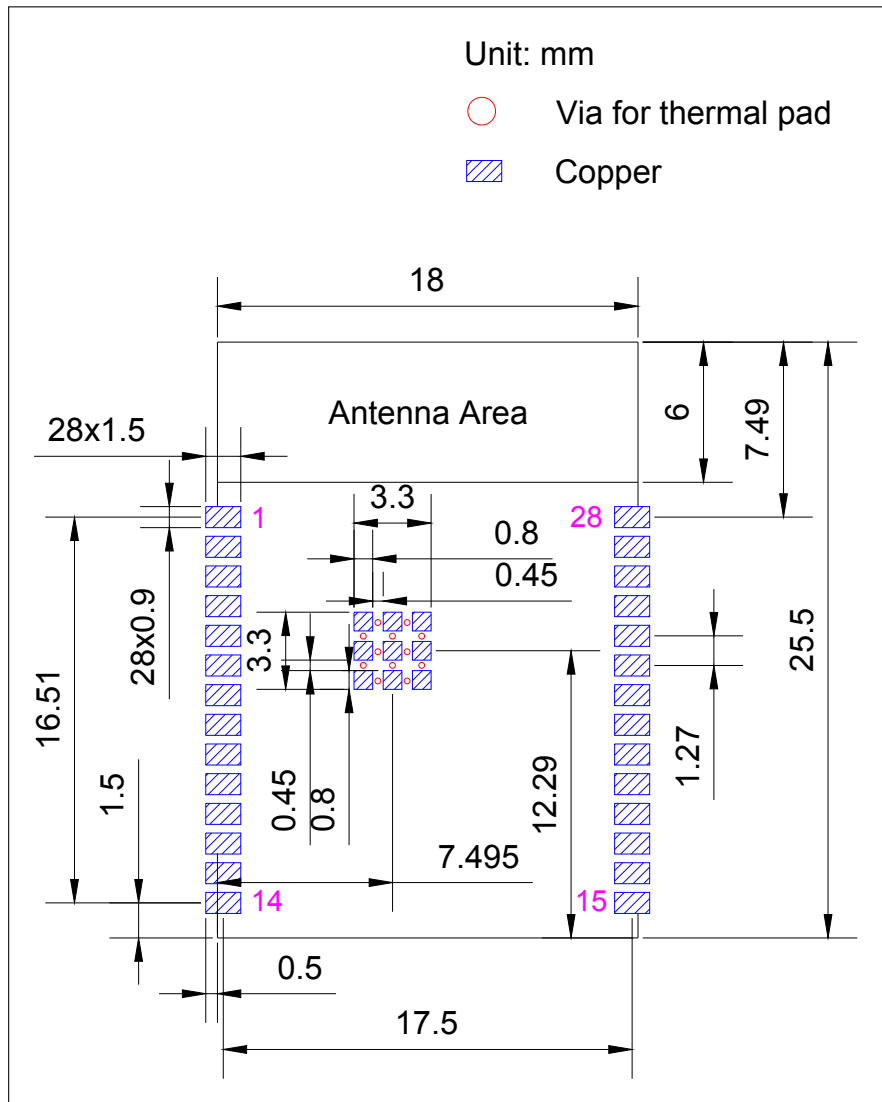
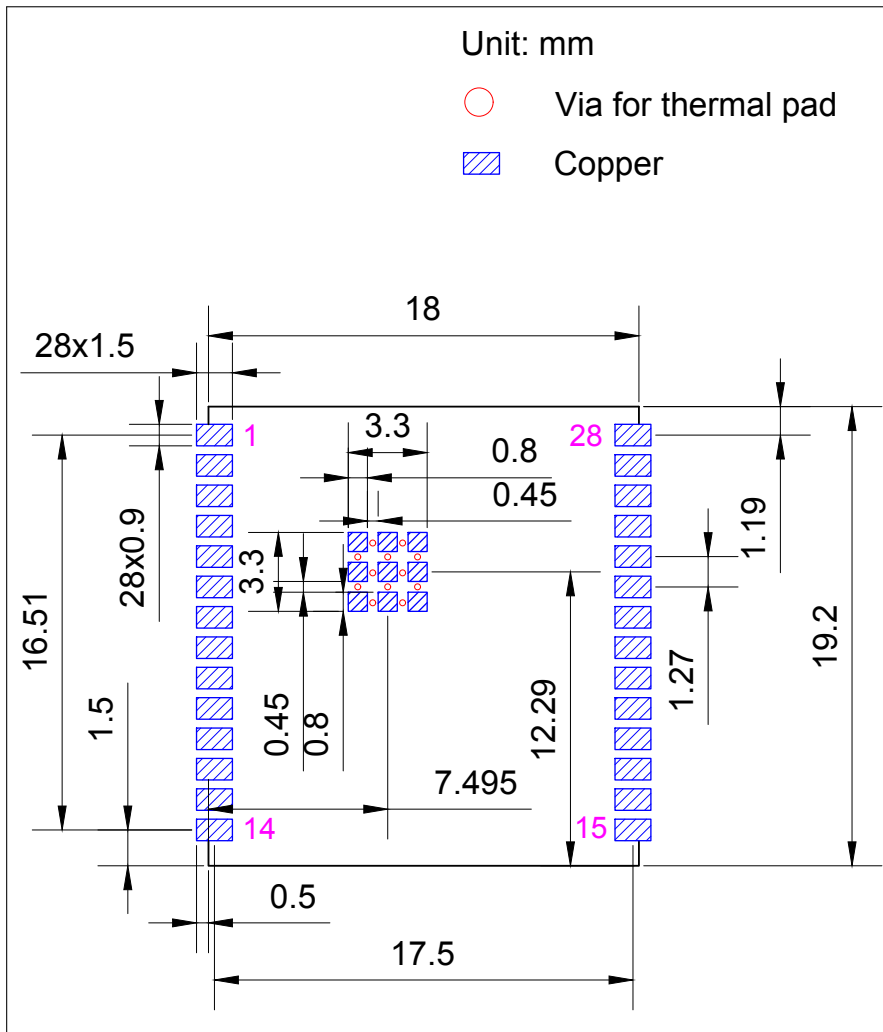

Figure 10: ESP32-C6-WROOM-1 Recommended PCB Land Pattern
Figure 11: ESP32-C6-WROOM-1U Recommended PCB Land Pattern
- Figures for recommended PCB land patterns with all the dimensions needed for PCB design. See Figure 10 *ESP32-C6-WROOM-1 Recommended PCB Land Pattern* and Figure 11 *ESP32-C6-WROOM-1U Recommended PCB Land Pattern*.
- Source files of recommended PCB land patterns to measure dimensions not covered in Figure 10. You can view the source files for ESP32-C6-WROOM-1 with Autodesk Viewer.